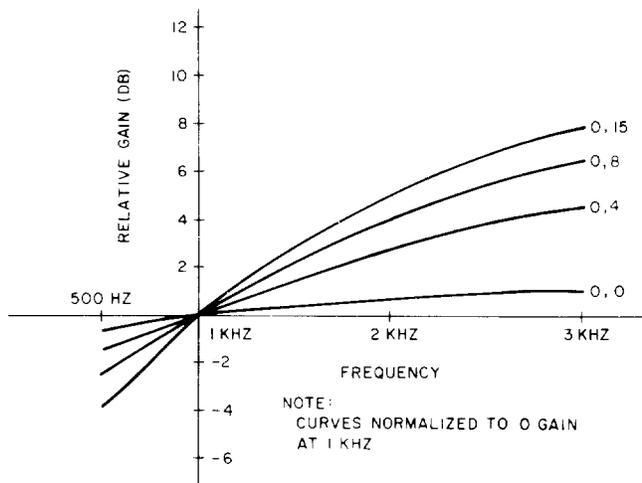
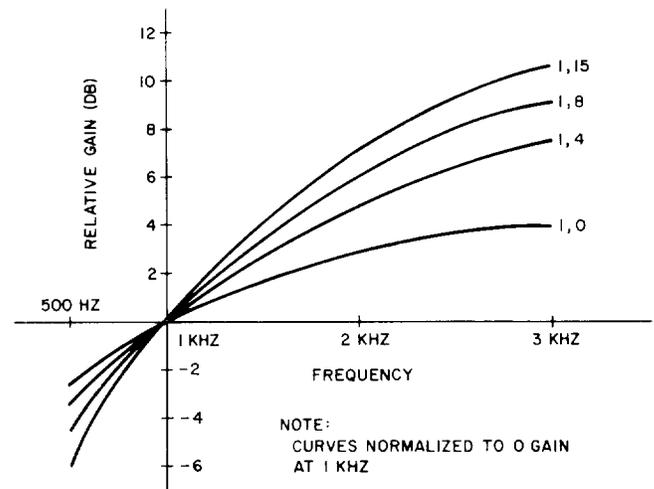

Fig. 3—Equalizer Frequency Response With C=0 (off)
Fig. 4—Equalizer Frequency Response With C=1 (on)
**3.02** Figures 3 and 4 give the frequency response for various equalizer and gain settings. Figure 3 provides the response curves for various equalizer settings with the C switch set for 0 (off). Figure 4 provides curves for the same equalizer settings with the C switch set for 1 (operated).